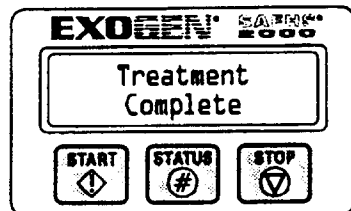

Fig. F.8
- a. The device will automatically stop treatment after 20-minutes. A beeping sound of 1 beep per second will indicate that treatment is complete and the display will read "Treatment Complete" (Fig. F.8). The green light on the THM will go out.